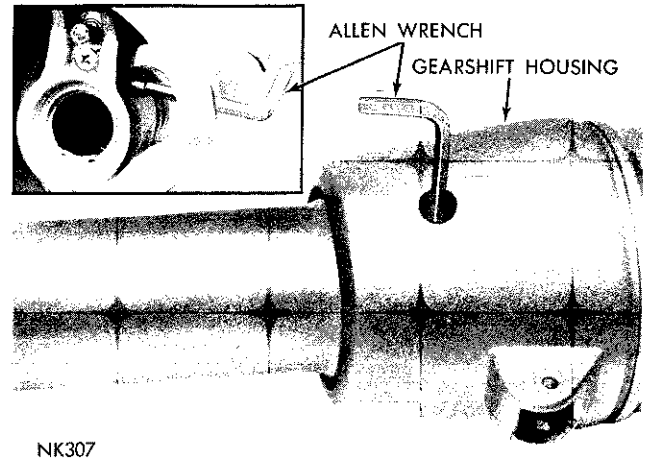

Fig. 11—Removing or Installing Tapered Lock Bolt
(8) Rotate the gearshift housing to align opening with the tapered lock bolt. Remove the lock bolt with an Allen wrench (Fig. 11). With lock bolt removed, carefully pull the gearshift tube assembly out of the column jacket.
(8) Rotate the gearshift housing to align it so the tapered lock bolt can be installed with an Allen wrench (Fig. 11). Tighten the lock bolt securely.